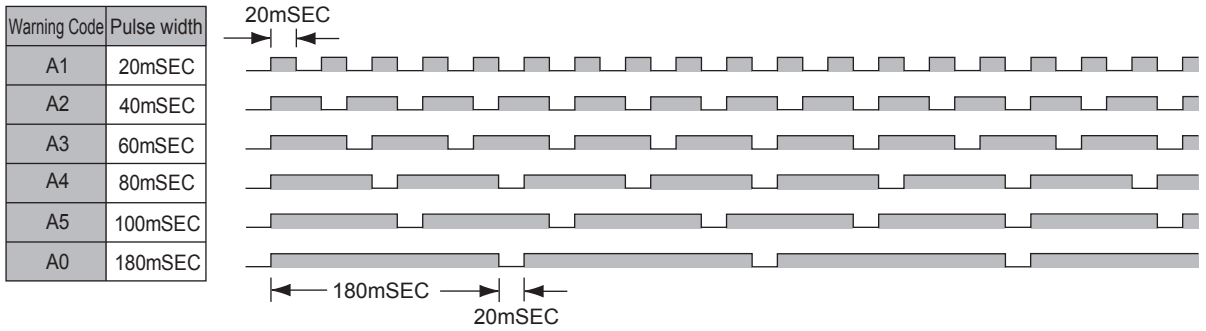

Fig. 44
When a warning occurs, a warning signal is output to the external Input / Output Connector A ③ (terminal No. 20: WARNING). (Refer to Fig. 44.)